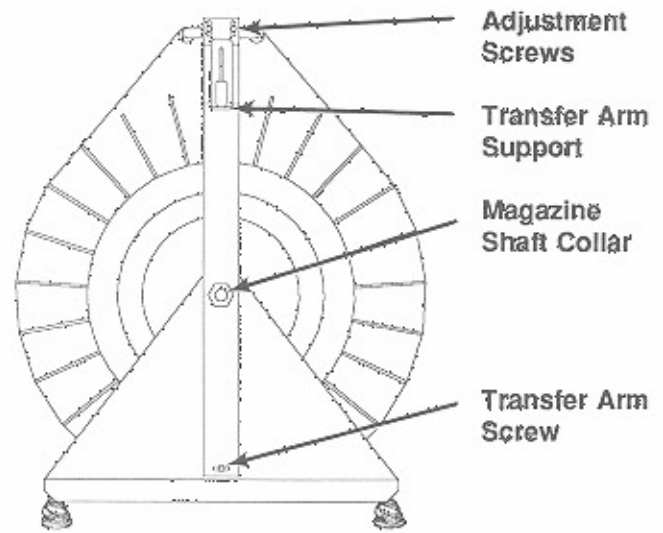

Figure 6-12. Magazine Belt Adjustment
1. Loosen the two adjustment screws shown in figure 6-12.